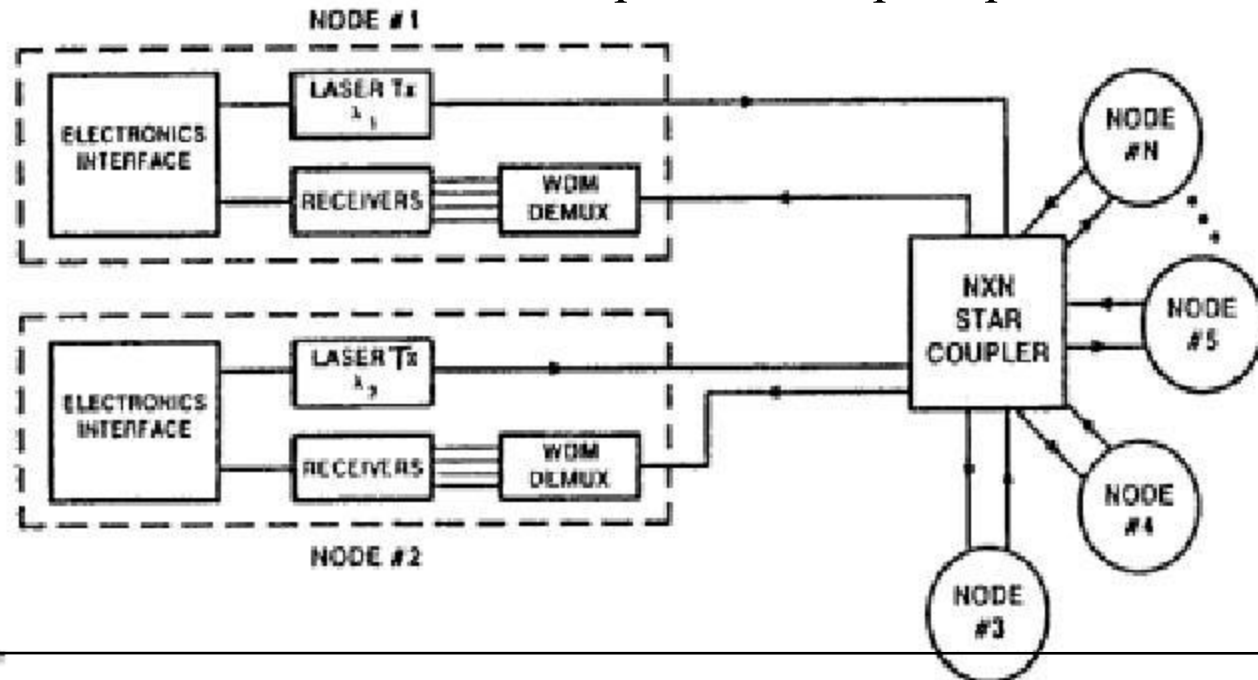

Fig.3.5
- The number of input and output ports is generally the same for the broadcast-and-select LANs in which each user wishes to receive all channels (see Fig. 3.5)